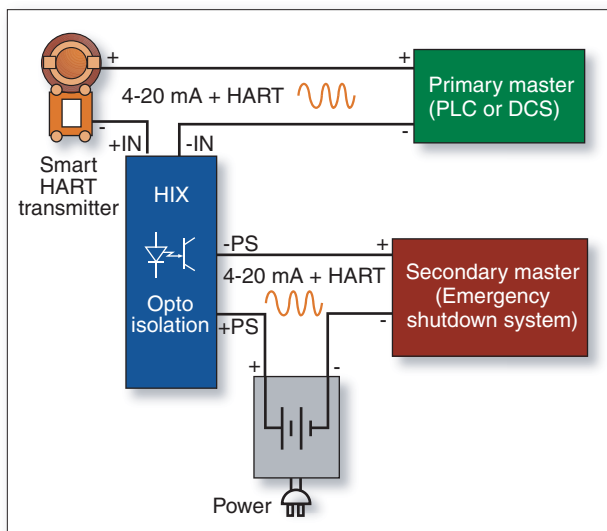

Fig. 4. A HART isolator makes it possible to share the same 4-20 mA process signal with two systems, such as a DCS and an Emergency Shutdown System.
• **Sharing HART signals** – In some cases, it is desirable to share the output of a HART transmitter with two different systems. For example, a refinery may want to share signals from transmitters with a DCS and an Emergency Shutdown System. A simple HART isolator (Fig. 4) makes this possible. An isolator also protects one system from the other: both 4-20 mA process signals are fully isolated.